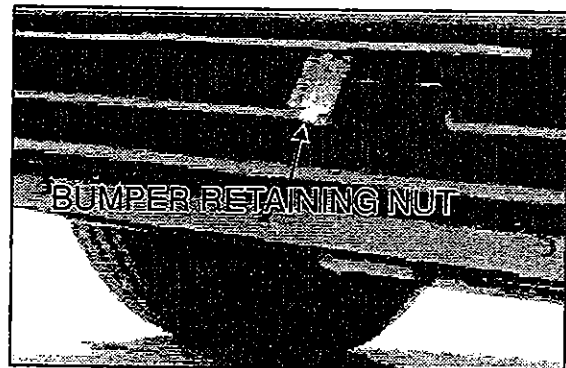

Figure 9
1. Loosen 2 nuts on binding rods from under the bumper while holding the bumper closed. See figure 9.